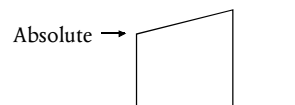

Figure 96 Absolute amplitude
- 1 Absolute. The amplitude of a level is the post-amplitude of the event that begins the level. For example, if the pre-amplitude of the event that begins the level is 0.2pA, and the post-amplitude -1.3pA, the amplitude of the level is -1.3pA. ☞ Figure 96.